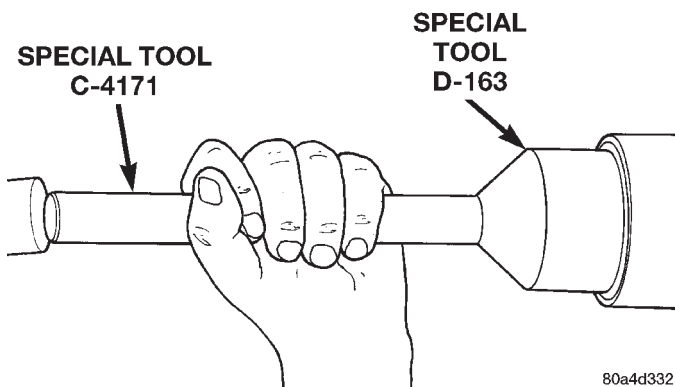

Fig. 31 Pinion Seal Installation
(5) Install pinion front bearing, and oil slinger, if equipped.
(6) Apply a light coating of gear lubricant on the lip of pinion seal. Install seal with Installer D-163 and Handle C-4171 (Fig. 31).